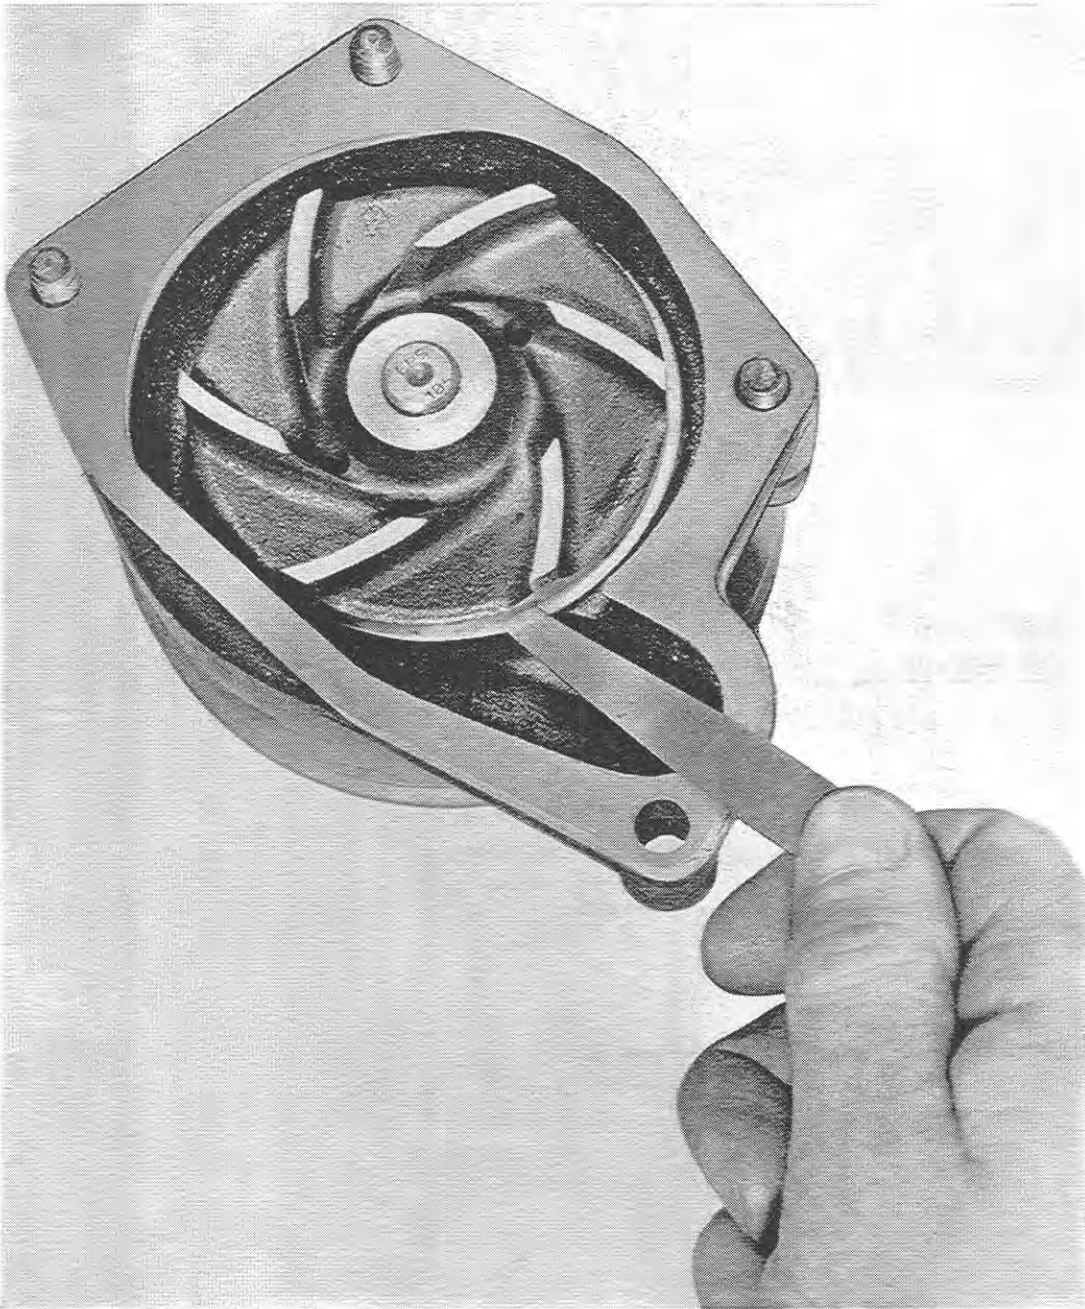

Fig. 5
- 3) Press on the impellor until there is a clearance of: 0.007" to 0.023" (0.18 - 0.62 mm) between the impellor and pump body (Fig. 5).